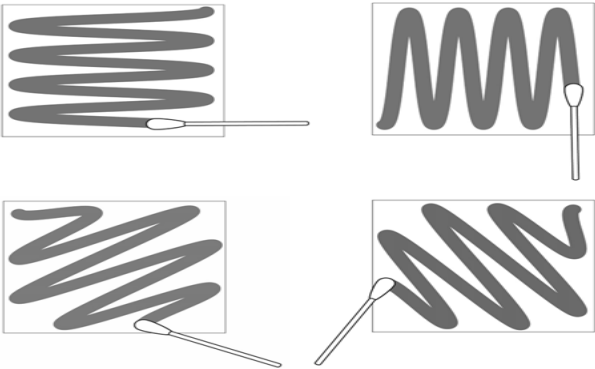

Figure 1.
3. Gather the sample with the swab by using a crosshatch technique (**Figure 1**). Move the swab horizontally, vertically, diagonally while rotating the tip. Repeat this starting from a different angle each time.